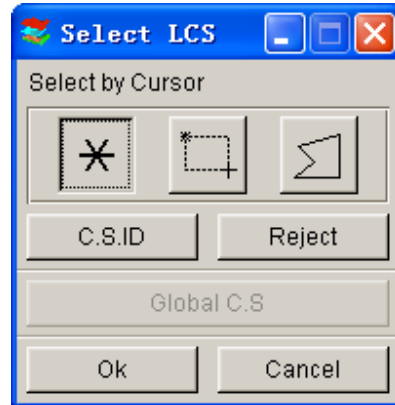

Figure 11.13.2 Select LCS
- The SELECT LCS dialog window appears. See Figure 11.13.2.